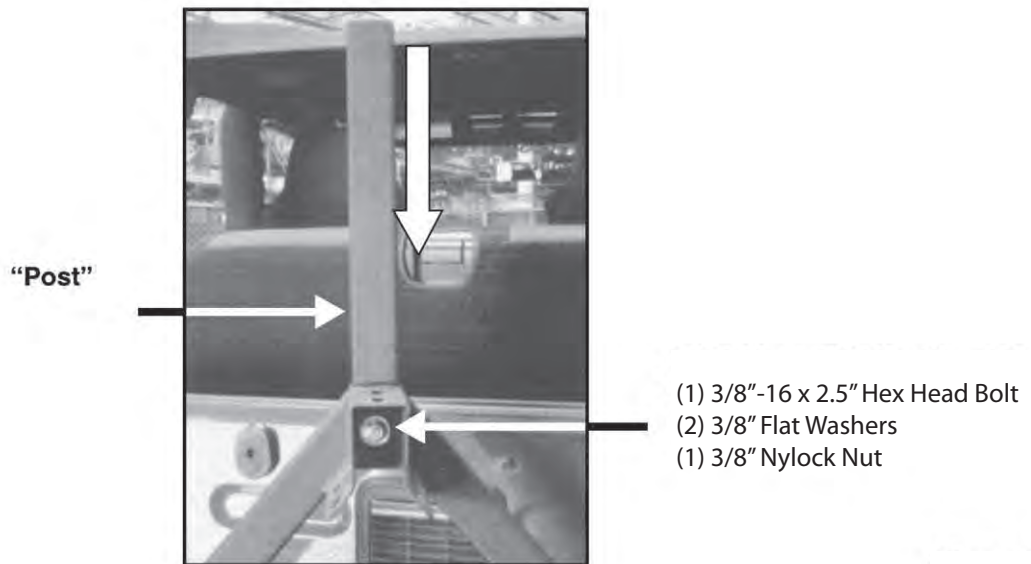

Figure 9
12. Locate Post, (1) 3/8"-16 x 2.5" Hex Head Bolt, (2) 3/8" Flat Washers, and (1) 3/8" Nylock Nut. Insert Post into Tire Carrier and secure it with hardware listed in this step (Figure 9). Tighten hardware at this time.